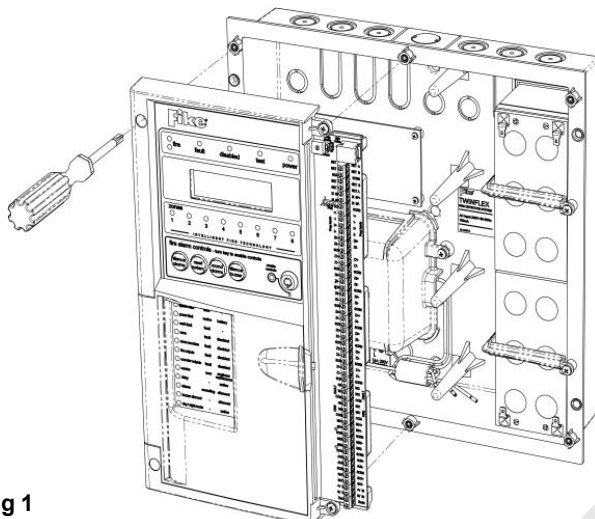
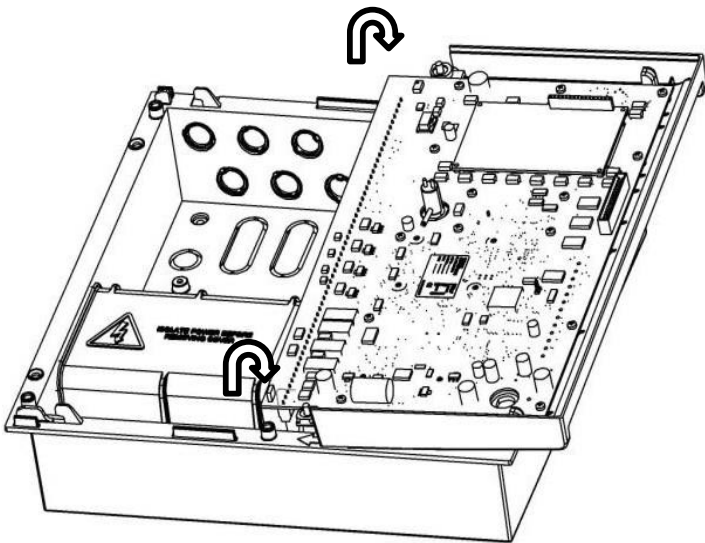

Fig 1
Fig 2
5. Unscrew the four fixing screws that secure the left hand CIE assembly (Fig 1), then flip the assembly over clockwise (Fig 2).
8. Flip the left hand CIE assembly back over clockwise (reverse fig 2) and plug the other end of the ribbon cable assembly into the connector marked (expansion connector) on the CIE PCB (again this will only fit one way).
9. Secure the CIE assembly onto the base molding (Fig 1) (ensure that all cables ends are accessible for termination) and secure into position.